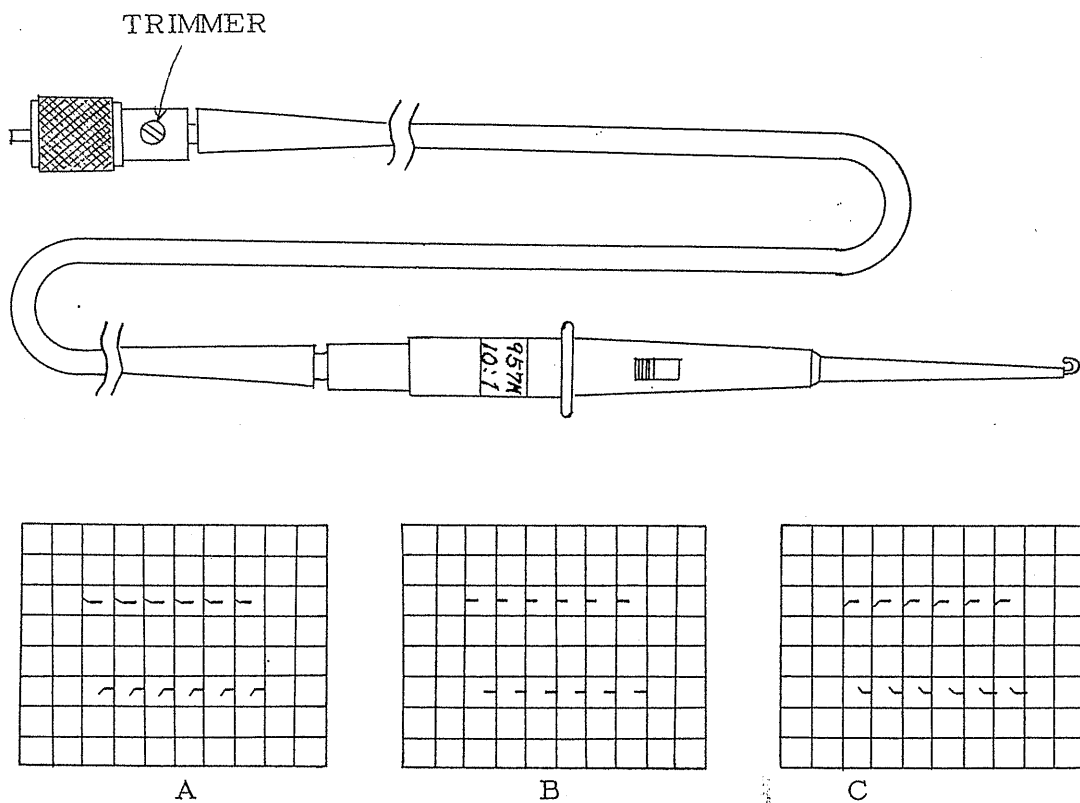

Fig. 19
Accordingly, high quality square wave of approx. 1 kHz must be given to the probe and the trimmer for probe, be adjusted for adjusting it to the wave form shown in Fig. 19 B.
- 9) Adjust the output of the square wave generator and work out the square wave shown in Fig. 19.